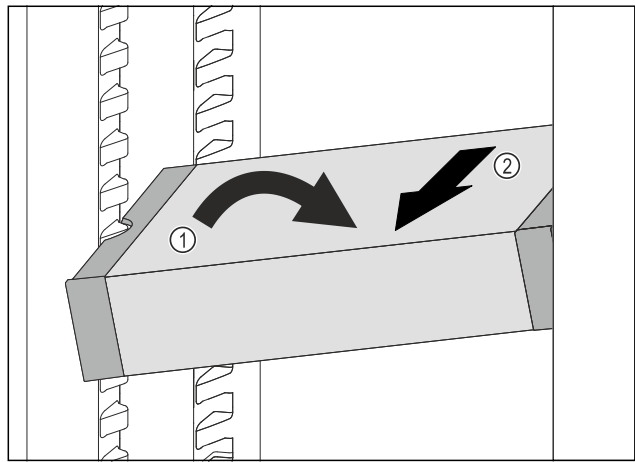

Fig. 79
- ▶ Set VarioSafe in refrigerator compartment at an angle. Fig. 79 (1)
- ▶ Take VarioSafe out to the front. Fig. 79 (2)